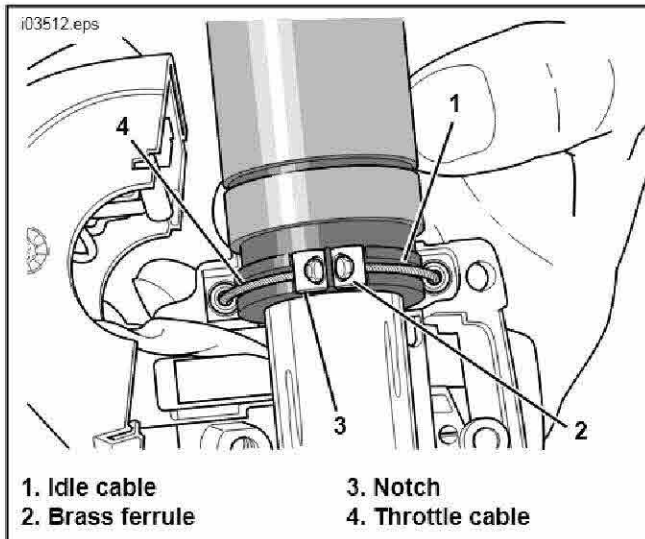

Figure 3. Throttle/Idle Control Cables
- See Figure 3. Remove the brass ferrules from the notches on the inboard side of the throttle control grip. Remove the ferrules from the cable end fittings.
- See Figure 3. Apply graphite lightly to the throttle grip inside the switch housing and on the throttle end of the handlebar.
- Refer to Figure 3. Position the lower switch housing beneath the throttle control grip. Install two brass ferrules (Part Number 56508-76) from this kit onto cables, seating the ferrules in their respective notches on the throttle control grip. The cables must be captured in the grooves molded into the grip.